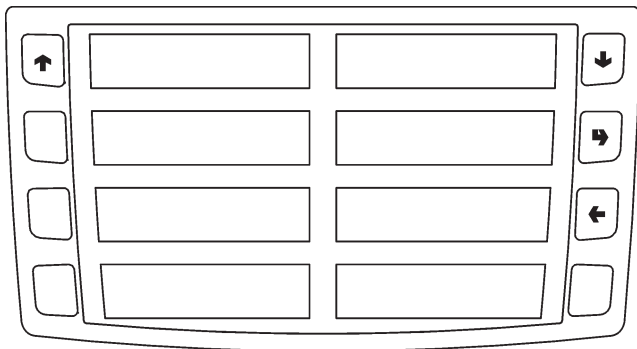

Fig. 20
- External direct selection push-button panel which takes on the following functions when in “Filler” and “Technician” mode (see Fig. 20):